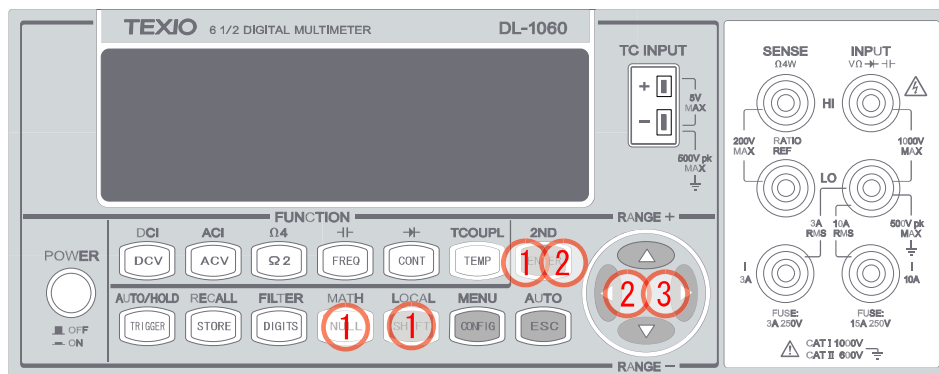

Figure 3-25
1. Do the procedure SHIFT + NULL > LIMITS > ENTER > HIGH LIMIT/LOW LIMIT > ENTER to access the setting as shown in **Figure 3-25**